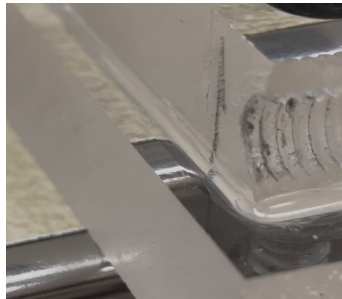

Figure 3.4
5. The liquid should create an unbroken capillary effect at the junction of the pieces (*Figure 3.4*).